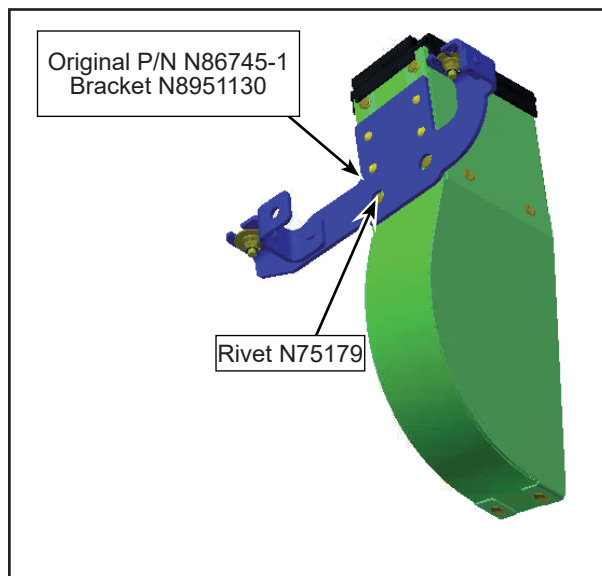
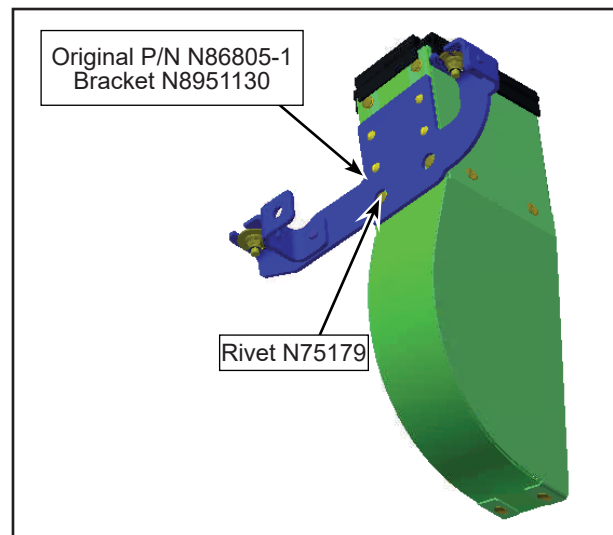

Figure 5 - Installation of Bracket
Figure 12 - Installation of Bracket
- 1.11. Install the brackets accordingly on the deflectors using the rivets N75179 (see figure 5 to figure 12).